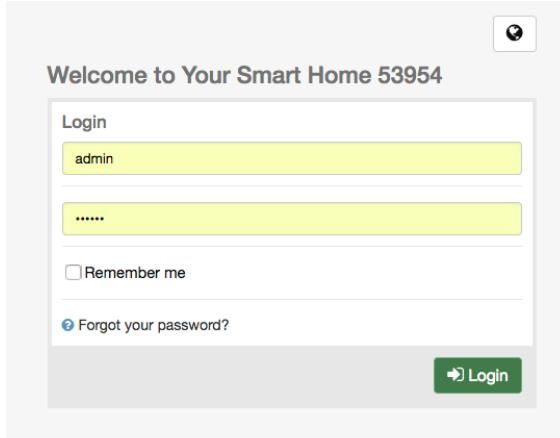

Figure 3.9: Login on local IP address
- In case you use the service from a PC or a mobile phone within your home, the service will detect this and show the IP addresses of your **Z-Way™** controllers. It is possible that a **Z-Way™** controller has two IP interfaces (Ethernet + Wi-Fi). In this case, both addresses are shown. Clicking on the IP address will lead to the local IP login screen, as shown in Figure 3.9, where only name (e.g. admin) and password are required.